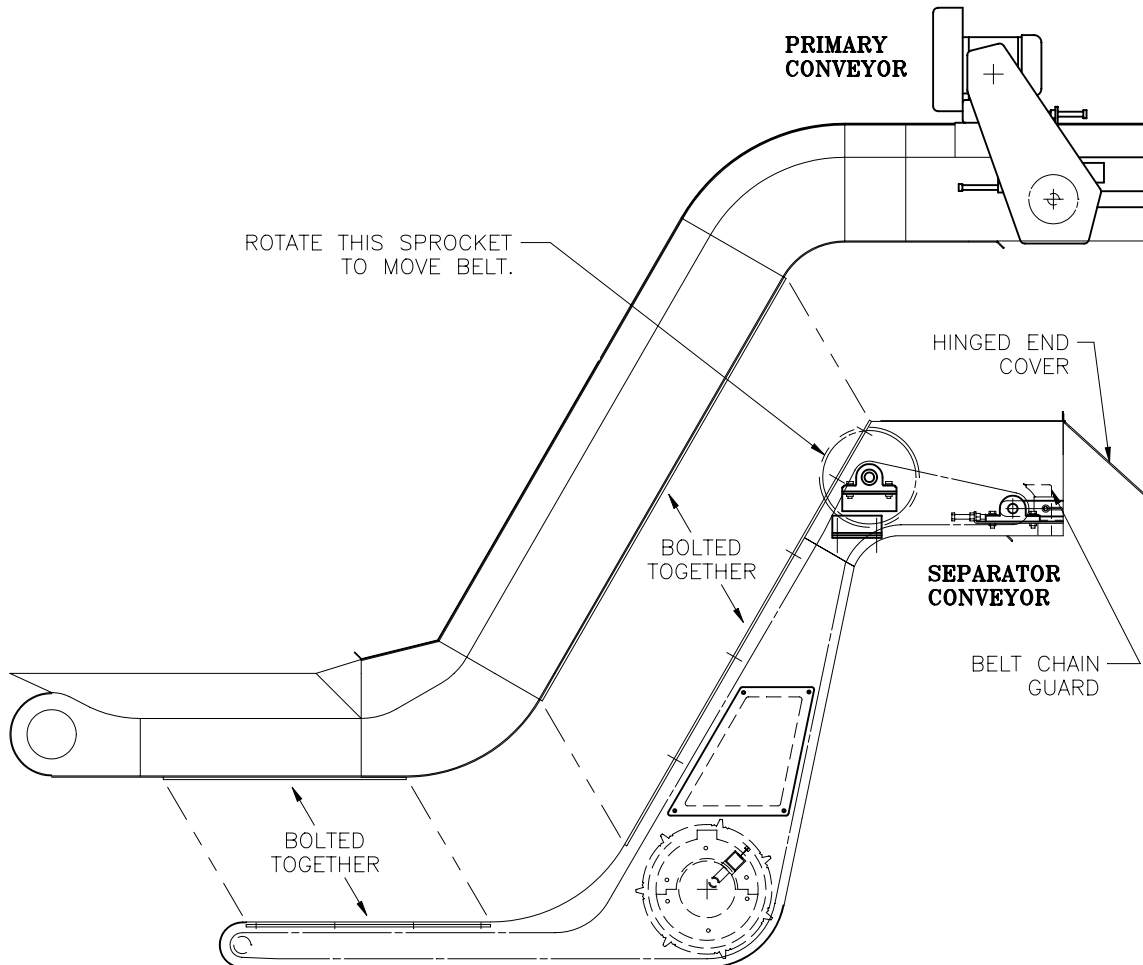

Figure 28: Separating the two conveyors.
1. Separate the two conveyors by unbolting the bolts on the lower horizontal and incline of the conveyors (See Figure 28). Lift the hinged end cover and remove the belt chain guards.
1. Separate the two conveyors by unbolting the bolts on the lower horizontal and incline of the conveyors (See Figure 28).